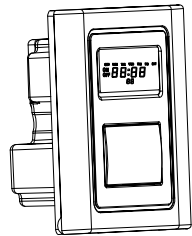
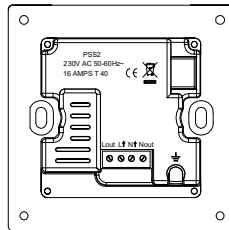

Fig.1 Front View
Fig.2 Back View
3. Front View and Back View (Fig. 1 and Fig. 2)